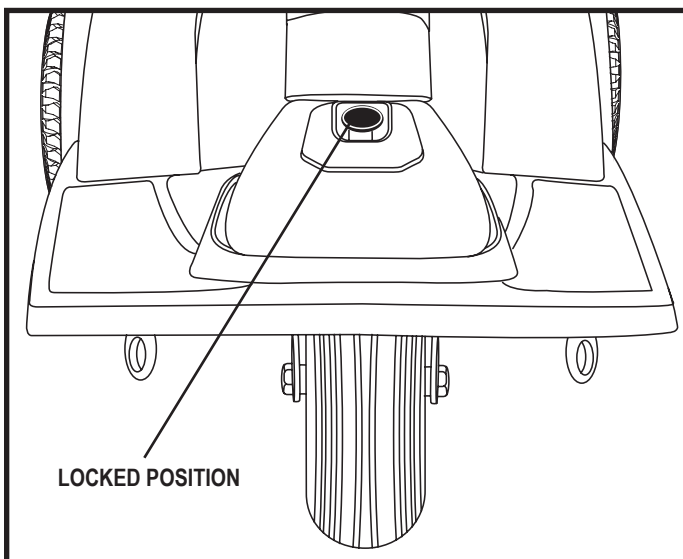

Figure 22. Tiller Lock Knob (Locked)
2. Lock the tiller in the straight ahead position by pushing the tiller lock knob in and turning it clockwise 90°. **See figure 22.** The front wheel must face forward in order to lock the tiller.